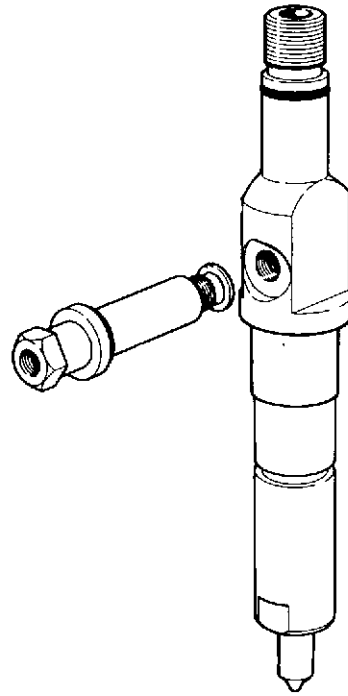

Fig. 9 Fuel injector
- 2 Unscrew the injector spill connection (fig. 9) from each injector to be renewed, and remove the rocker cover.